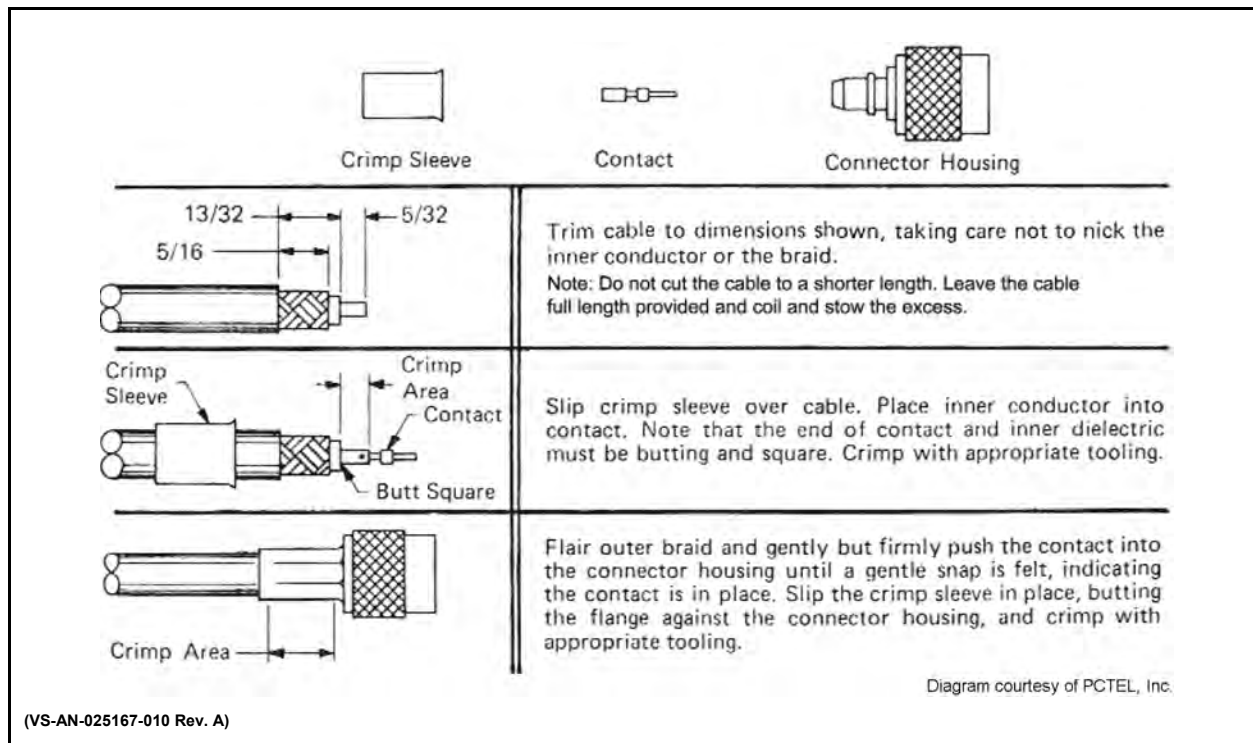

Figure 8-6: Crimping Instructions for TNC RF Connector (Dimensions in Inches)
3. Using an appropriate crimp tool, crimp the supplied TNC RF connector to the end of each antenna cable. See Figure 8-6 for crimping instructions.